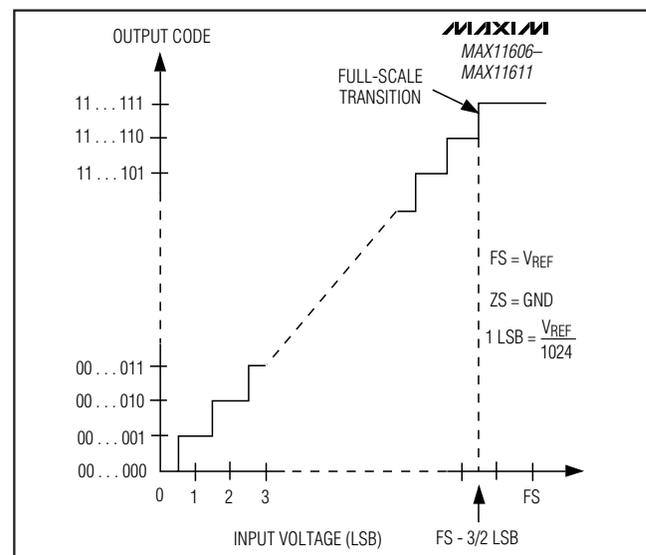
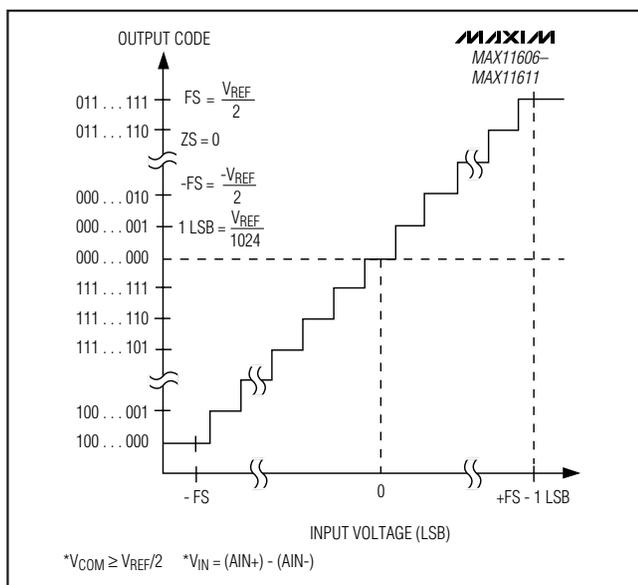

Figure 12. Unipolar Transfer Function
Figure 13. Bipolar Transfer Function
Output data coding for the MAX11606-MAX11611 is binary in unipolar mode and two's complement in bipolar mode with 1LSB = $(V_{REF}/2N)$ where N is the number of bits (10). Code transitions occur halfway between successive-integer LSB values. Figure 12 and Figure 13 show the input/output (I/O) transfer functions for unipolar and bipolar operations, respectively.